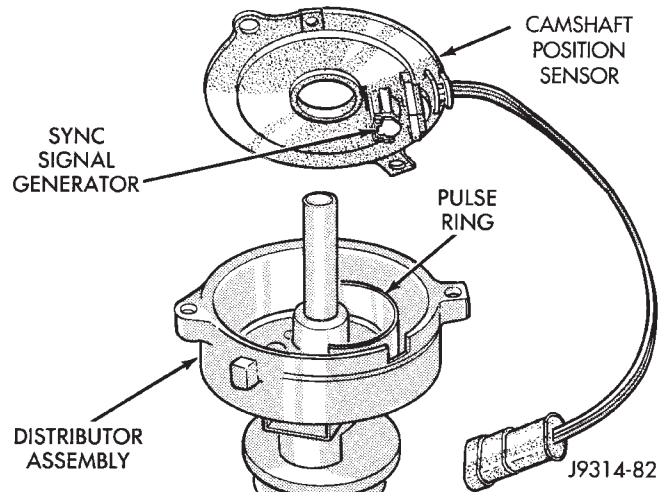

Fig. 32 Camshaft Position Sensor—Typical (5.2L/5.9L Shown)
The camshaft position sensor is located in the distributor on all 4.0L 6-cylinder and 5.2L/5.9L V-8 engines (Fig. 32).
- (6) Lift the camshaft position sensor assembly from the distributor housing (Fig. 32).